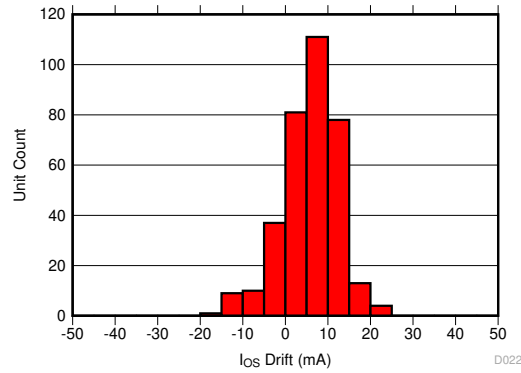

Figure 9-8. Input-Referred Offset Drift After AEC-Q100 High Temperature Operating Life Stress Test
The same compensation techniques used in the TMCS1101 to reduce temperature drift also greatly reduce lifetime drift due to aging, stress, and environmental conditions. Typical magnetic sensors suffer from up to 2% to 3% of sensitivity drift due to aging at high operating temperatures. The TMCS1101 has greatly improved lifetime drift, as defined in the *Electrical Characteristics* for total sensitivity error measured after the worst case stress test during a three lot AEC-Q100 qualification. All other stress tests prescribed by an AEC-Q100 qualification caused lower than the specified sensitivity error, and were within the bounds specified within the *Electrical Characteristics* table. Figure 9-6 shows the total sensitivity error after the worst-case stress test, a Highly Accelerated Stress Test (HAST) at 130°C and 85% relative humidity (RH), while Figure 9-7 and Figure 9-8 show the sensitivity and offset error drift after a 1000 hour, 125°C high temperature operating life stress test as specified by AEC-Q100. This test mimics typical device lifetime operation, and shows the likely device performance variation due to aging is vastly improved compared to typical magnetic sensors.